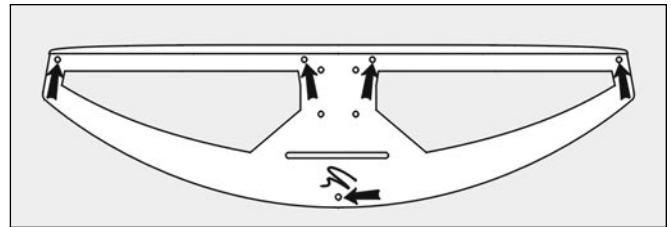

Figure 2. The Theater stand, shown from the bottom, with bumper insertion locations shown.
4. Insert the 5 rubber bumper feet in the 5 outer holes (see figure 2).